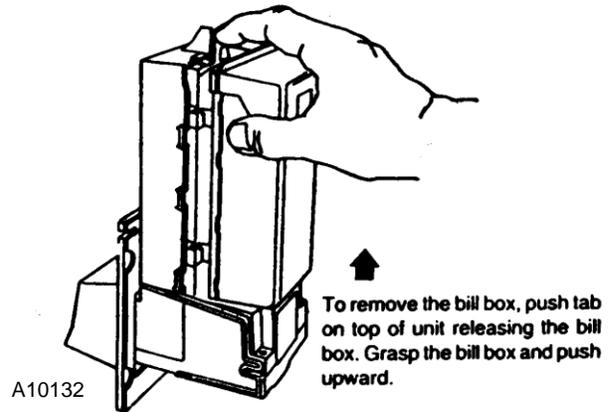

FIGURE 11. Removing Bill Box
2. Remove the retaining screw that secures the logic board and strain relief. see Figure 11.
Accepted bills may be removed by opening the "bill box" lid or by removing the bill box from the validator. See Figure 11. If the bill box is removed, *make sure that it is*